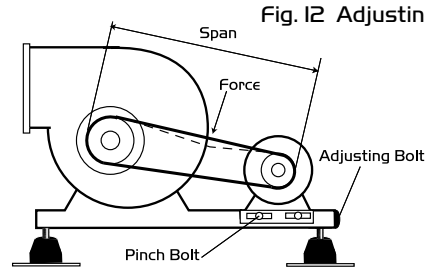

Fig. I2 Adjusting the drive belts (ESX 20-26).
1. Measure the span length (See fig. I2).
2. At the centre of the span, apply a force at right angles to the belt sufficient to deflect one belt 16mm for every metre of span length (see fig. I2). The force required to deflect the 'V' belt should be from 0.5kg to 0.8kg.